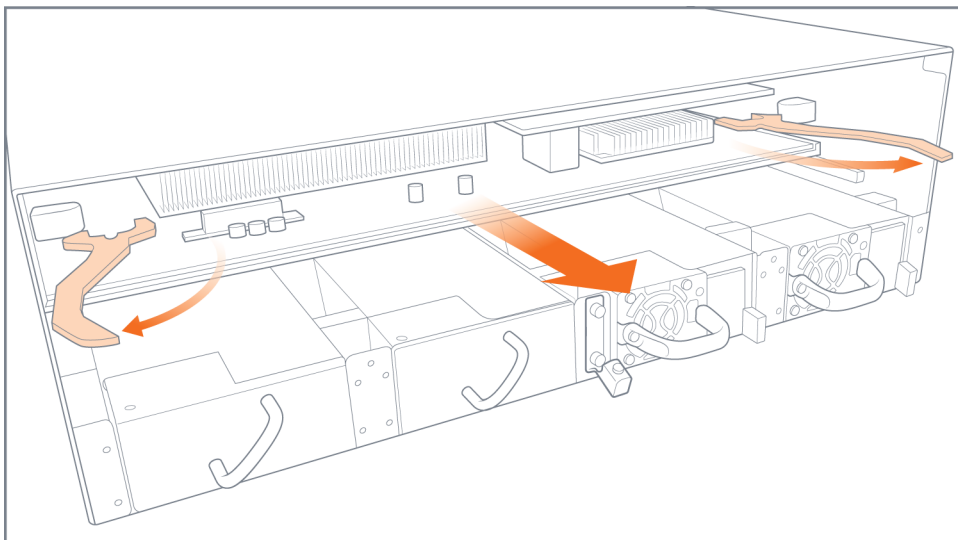

Figure 4-18: Control Card Ejector Handles
4. Swing both ejector handles outward as shown in Figure 4-18 on page 83.